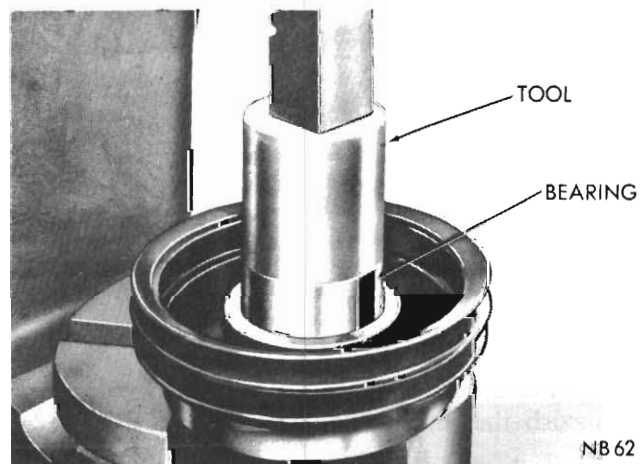

Fig. 22 – Installing a new bearing in the pulley
(1) Install pulley assembly with pulley side up on an arbor press and insert a *new* bearing into the bore. Install a mandril against the bearing and press into position (Fig. 22).
(2) Install pulley assembly with pulley side facing down.
(3) Start drive hub into the inner bearing race, and press hub into position with an arbor press.
(4) Install bearing snap ring and hub snap ring.